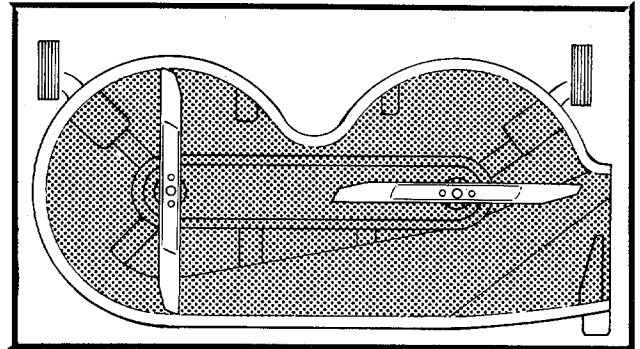

FIGURE 35.
2. Rotate the blade on the cutting deck and reassemble the other blade at 90° exactly as shown in figure 35.